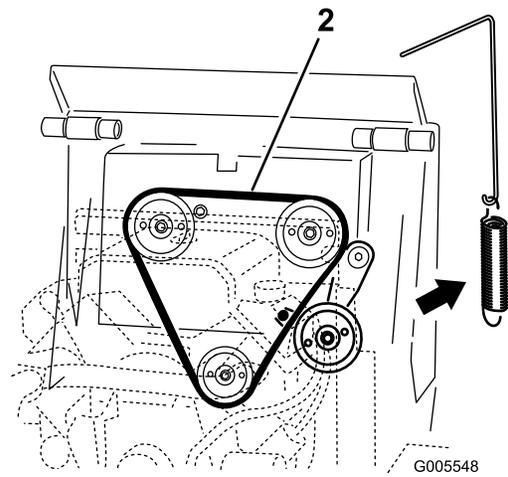

Figure 51
4. Remove the idler pulley spring from the idler-pulley assembly (Figure 51).
6. Install a new drive belt around the 3 pulleys (Figure 51).